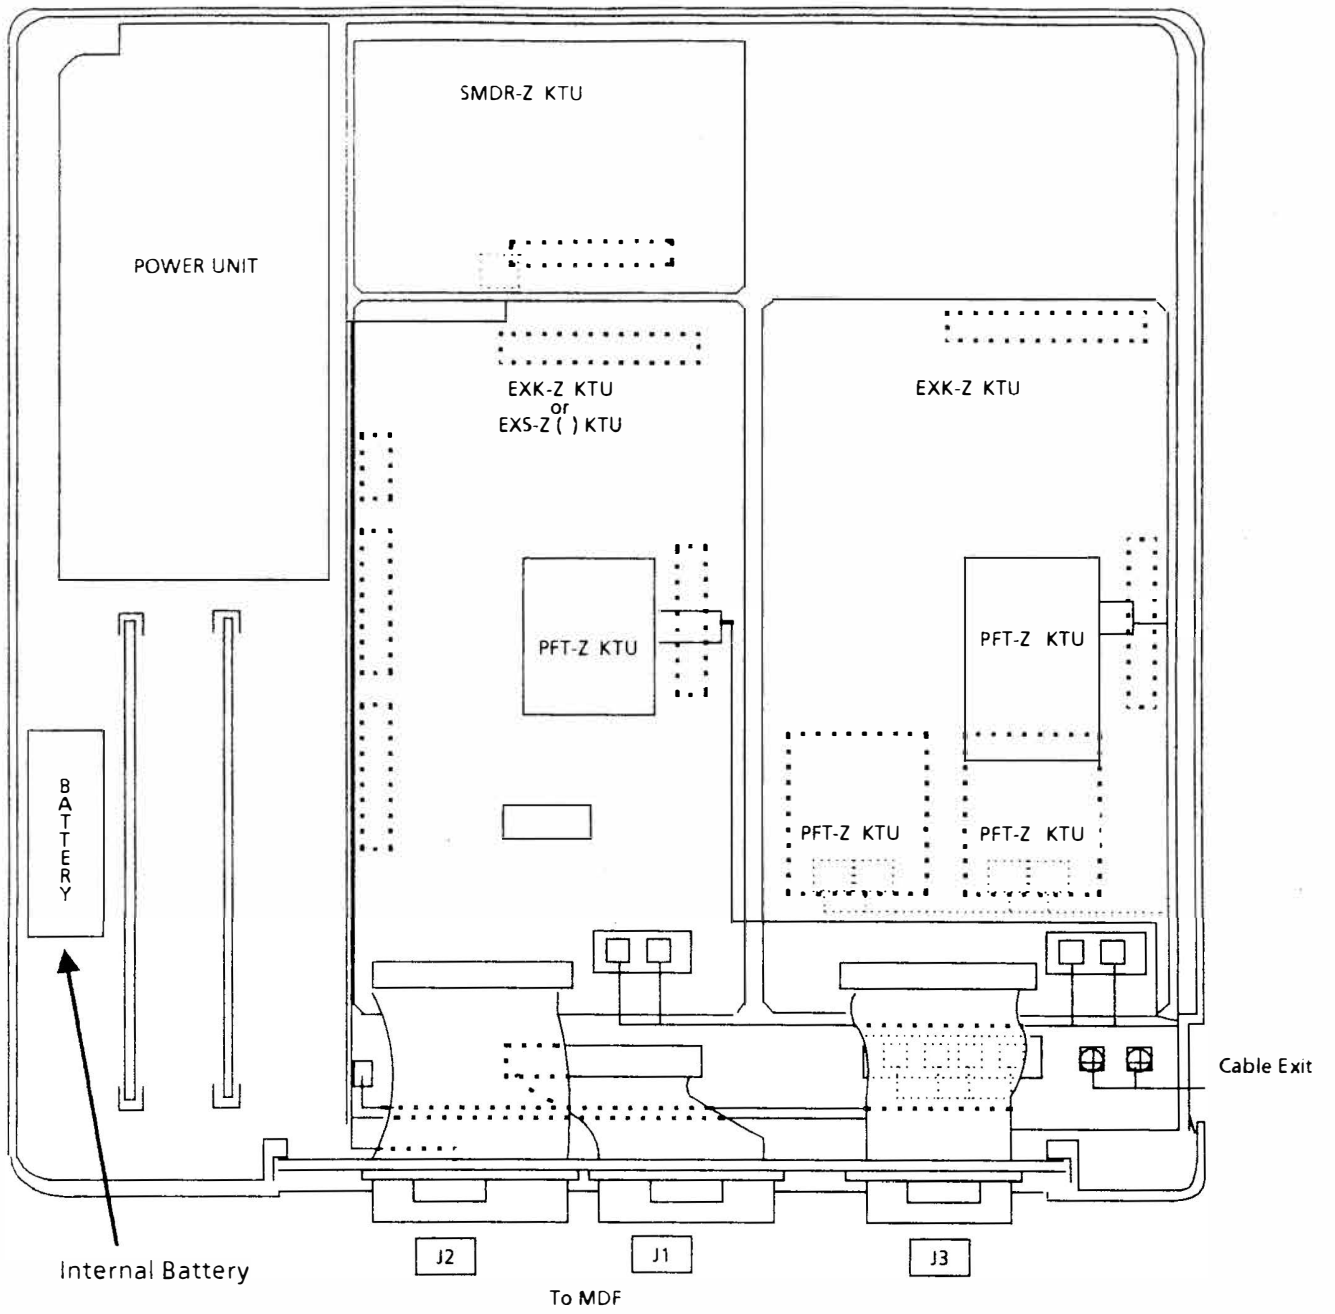

Figure 1 Electra 8/24 KSU
4.2 Locate the internal battery inside the KSU (see Figure 1) and disconnect the male and female connectors of the internal battery cable (see Figure 2).